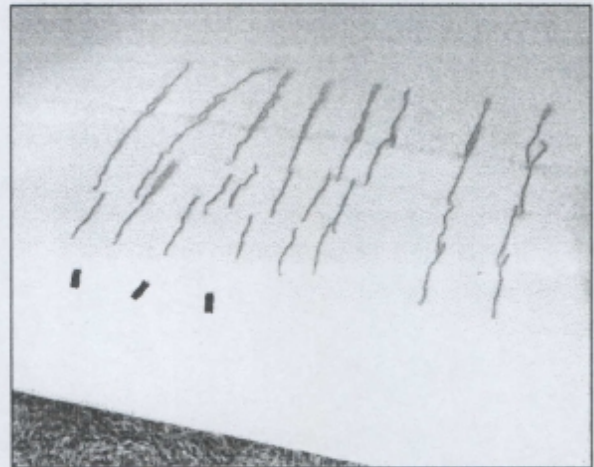

FIG. 7
6.2 Cut pieces of yarn 6" long. These are called tuffs. Cut enough pieces of yarn to cover approximately a 2.5' X 2.0' area of wing with the yarn spaced approximately 3" span wise and 6" chord wise. Stick the tuffs to the wing approximately at mid span with regular scotch 810 mending tape starting close to the leading edge of the wing and working your way back. Temporarily stick 3 vortex generators in a staggered manner at the 3.5" spacing given on template 1 with the leading edge vortex generator at the .90 chord position from the trailing edge. With the template correctly positioned take a felt marker with water soluble ink (Mr. SKETCH water color markers manufactured by Sanford) and draw the outline of the location of 3 vortex generators using the template as a guide. Place double sticky tape over the marked outlines for the position of the 3 vortex generators. Use scotch double sticky tape 665, also 665 tape comes in a dispenser identified with the number 137DM-2. Then stick the vortex generators to the double sticky tape. See figure 7 for a typical layout. Note the normally clear vortex generators have been painted black for better picture contrast.